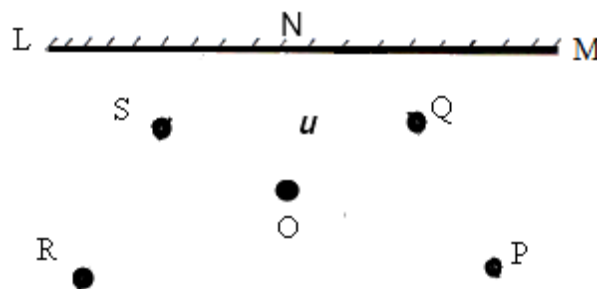

Figure 4.23: Plane Mirror Image Characteristics practical setup
4. Fix a pin at point O, 4 cm from the center N of the plane mirror as seen in Figure 4.23.